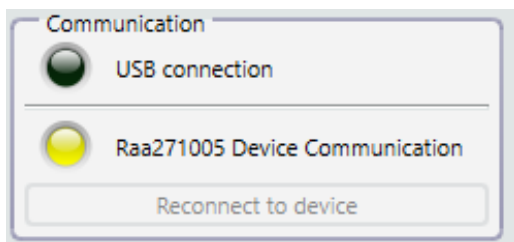
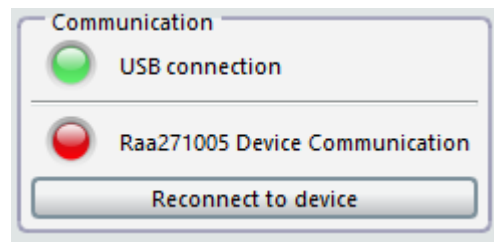

Figure 2. No Communication Status Detected
Figure 3. Communication Status Setup Issue
- Communication Status – To confirm that the USB dongle and device are properly connected, both status indicators should display green. If either of the status indicators depicts a red state as depicted in Figure 3, this indicates that communication between the USB dongle and device has not been established correctly. In this case, check the configuration and connection to resolve the issue. Ensure that the correct slave address for regulation and protection has been selected according to the OTP settings. In Figure 2, the indicators depict that no connection has been detected.